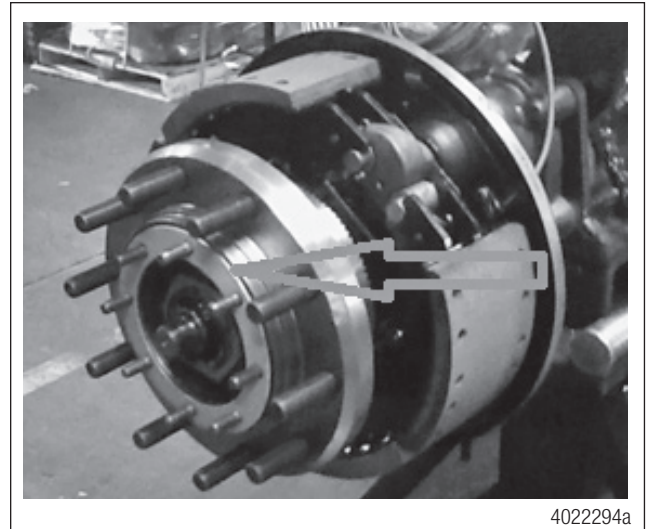

Figure 31
9. Reinstall the shims on the hub. Figure 31.